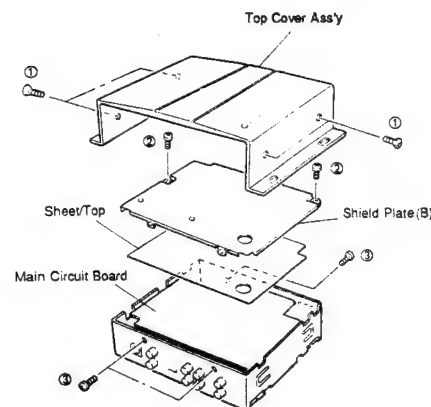

Fig. 1
- a. Remove 4 screws (①) in Fig. 1.
2. Removal of Shield Plate (B)
- a. Removal 5 screws (②, ③) in Fig. 1.